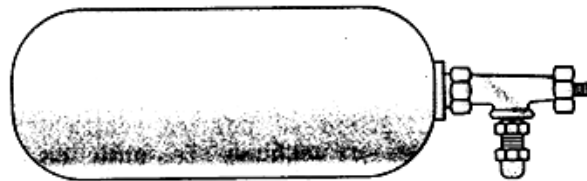

Fig. P-1.11. A gas cylinder.
11. Gas cylinder : It is used for storing gas which is to be charged in refrigerating machines. It is made of cast steel with one opening at the service valve and size depends upon the gas which it can store by weight in kilo grams. The larger cylinders are fitted with fusible plug threaded into the bottom so that in case of danger it may not burst. Fig. P-1.11 shows a gas cylinder.